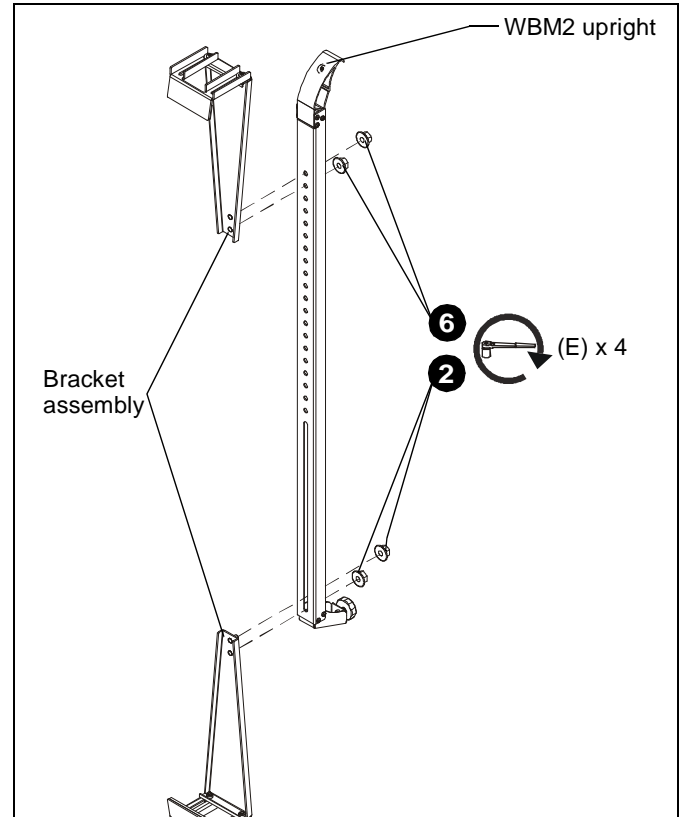

Figure 2
2. Using two 5/16" hex nuts with flange (E) install one bracket assembly to the lower end of one WBM2 upright. (See Figure 2)
6. Using two 5/16" hex nuts with flange (E) install one bracket assembly to upper part of one WBM2 upright. (See Figure 2)